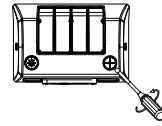

FIGURE 4.1
1. Open the metal plug and plastic plug counterclockwise with a screwdriver (FIG 4.1),